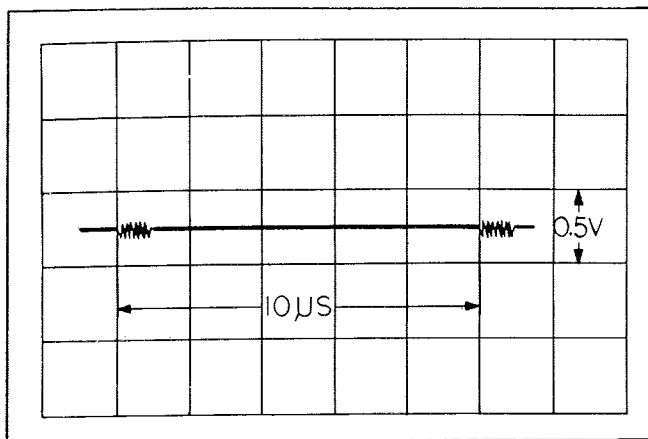

Figure 6.14 - Terminal E87 Waveform
h. Reconnect oscilloscope to terminal E87. The observed 100 KC spectrum waveform should resemble the one shown in figure 6.14.